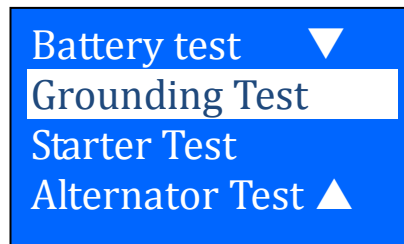

Figure 32
4. Pressing  key once will scroll down to the 'Grounding Test' (Fig.32)